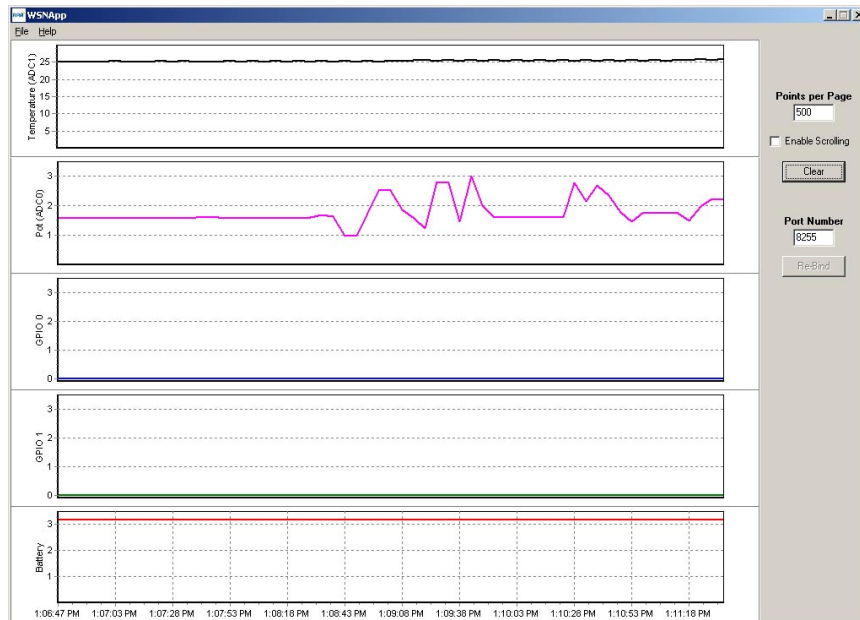

Figure 8.3.5
8. Start *WSNApp.exe*. Data will automatically begin filling the charts at a 10 s update interval, with data first appearing 20 to 30 s after starting the program. Adjusting the pot on the developer board can be observed in the Pot (ADC0) chart, as shown in Figure 8.3.5. The developer kit is now ready for use.